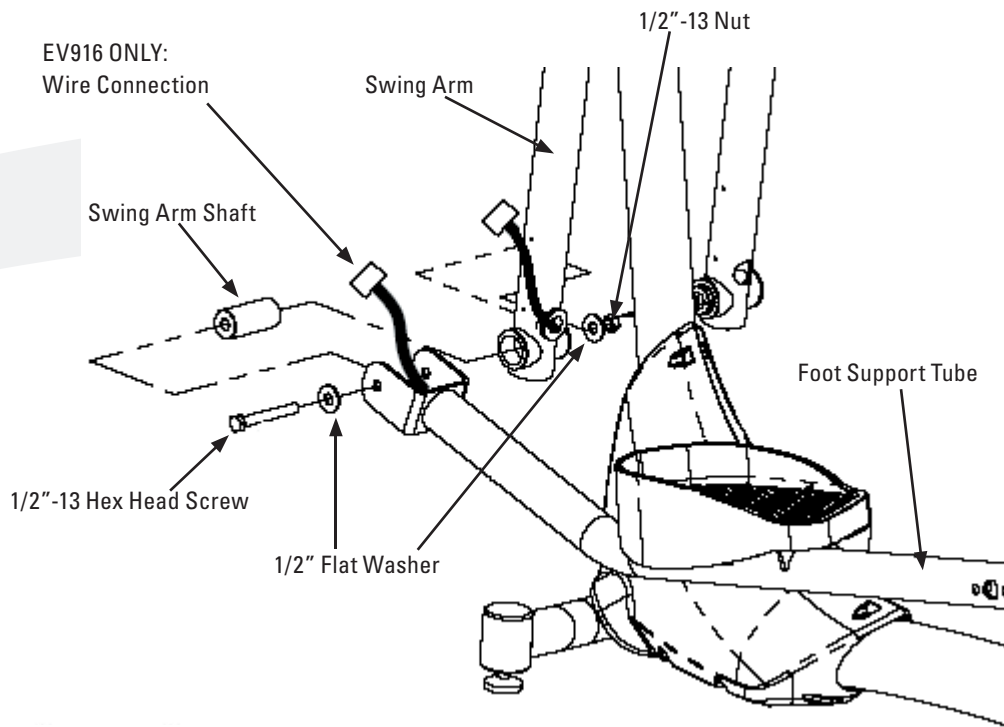

Figure 2
13. Secure the front bottom left and right covers with (10) #10-32 Phillips head screws. This will require a #2 Phillips head screw driver.
14. Install (1) Bottom Swing Arm Shaft into the swing arm and the install the foot support tube (see Figures 2 and 3).
15. Install and tighten (1) 1/2"-13 hex head screw, (2) 1/2" washers, and (1) 1/2"-13 nuts connecting the swing arm and the foot support tube (both left and right sides). This will require a 3/4" hex socket wrench. Install nuts toward middle of the machine as is shown in Figure 2. Torque bolts to 45 ft/lbs (if torque wrench is available).